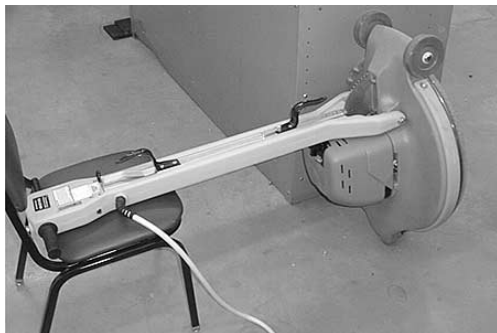

Fig. 9
11. Position machine as shown. Secure base to prevent it from moving (Figure 9).